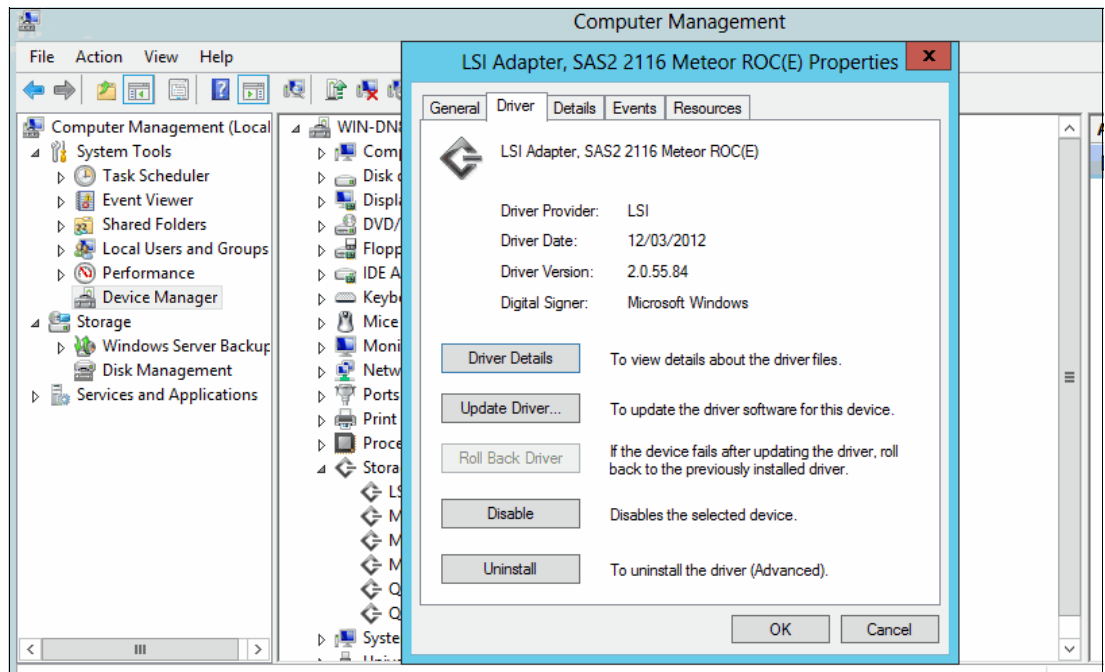

Figure 6-8 Host HBA details: Windows 2012
9. From here, use the tabs to record the information about the controller, as shown in Figure 6-8.